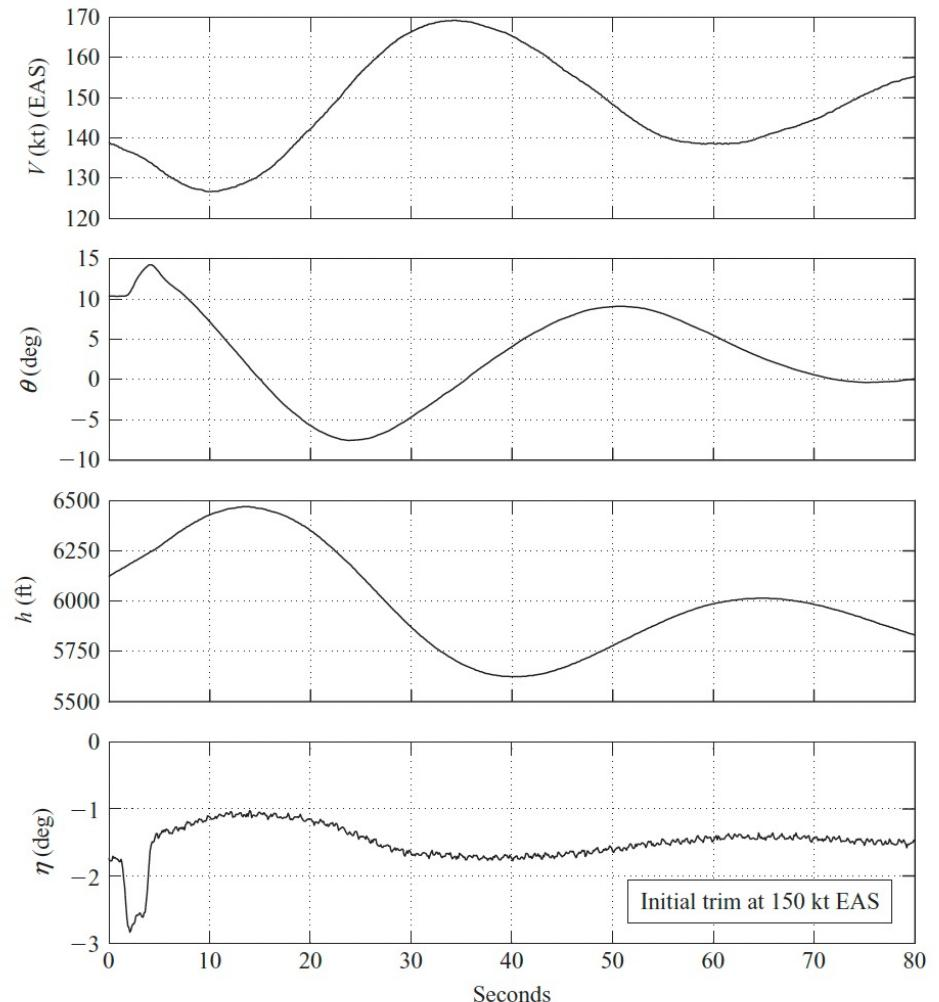

Figure 6.11 Flight recording of the phugoid.
- It is clear from an inspection of Fig. 6.11 that the phugoid damping is significantly higher than might be expected from the previous discussion of the mode characteristics.